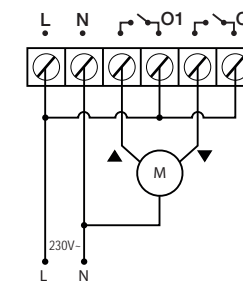

Fig. 5
- Fig. 5: Control of 1 Blind/Shutter
- Fig. 5: Control de una Persiana/Toldo